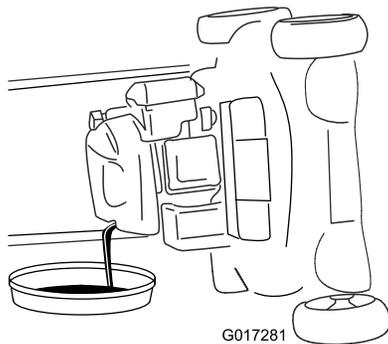

Figure 31
- Tip the machine onto its side (so that the air filter is up) to drain the used oil from the oil-fill tube (Figure 31).